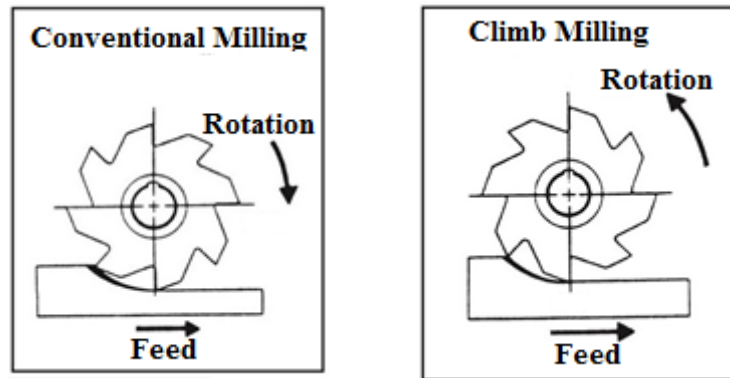

Figure Q6A; Schematic of milling processes
- A. Briefly discuss the differences between traditional machining and non-traditional machining. List down two (2) processes under each category. (4 marks)
- C. In metal cutting operation, there are two (2) types of wear occurring on the cutting tool that is the flank wear and crater wear.
- ii. State two (2) effects of each type of wear towards the metal cutting operation.
D. Refer to Figure Q6A;